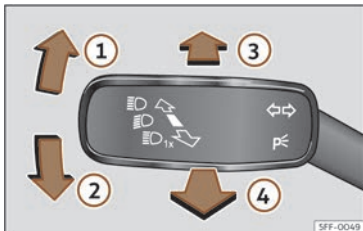

Fig. 100 Turn signal and main beam lever (depending on the version).
- From the base position, press the turn signal and main beam headlights lever forwards >>> **Fig. 100 ③**.
- **EITHER**: if main beam assist is on, pull the turn signal light and main beam headlights lever back >>> **Fig. 100 ④**.